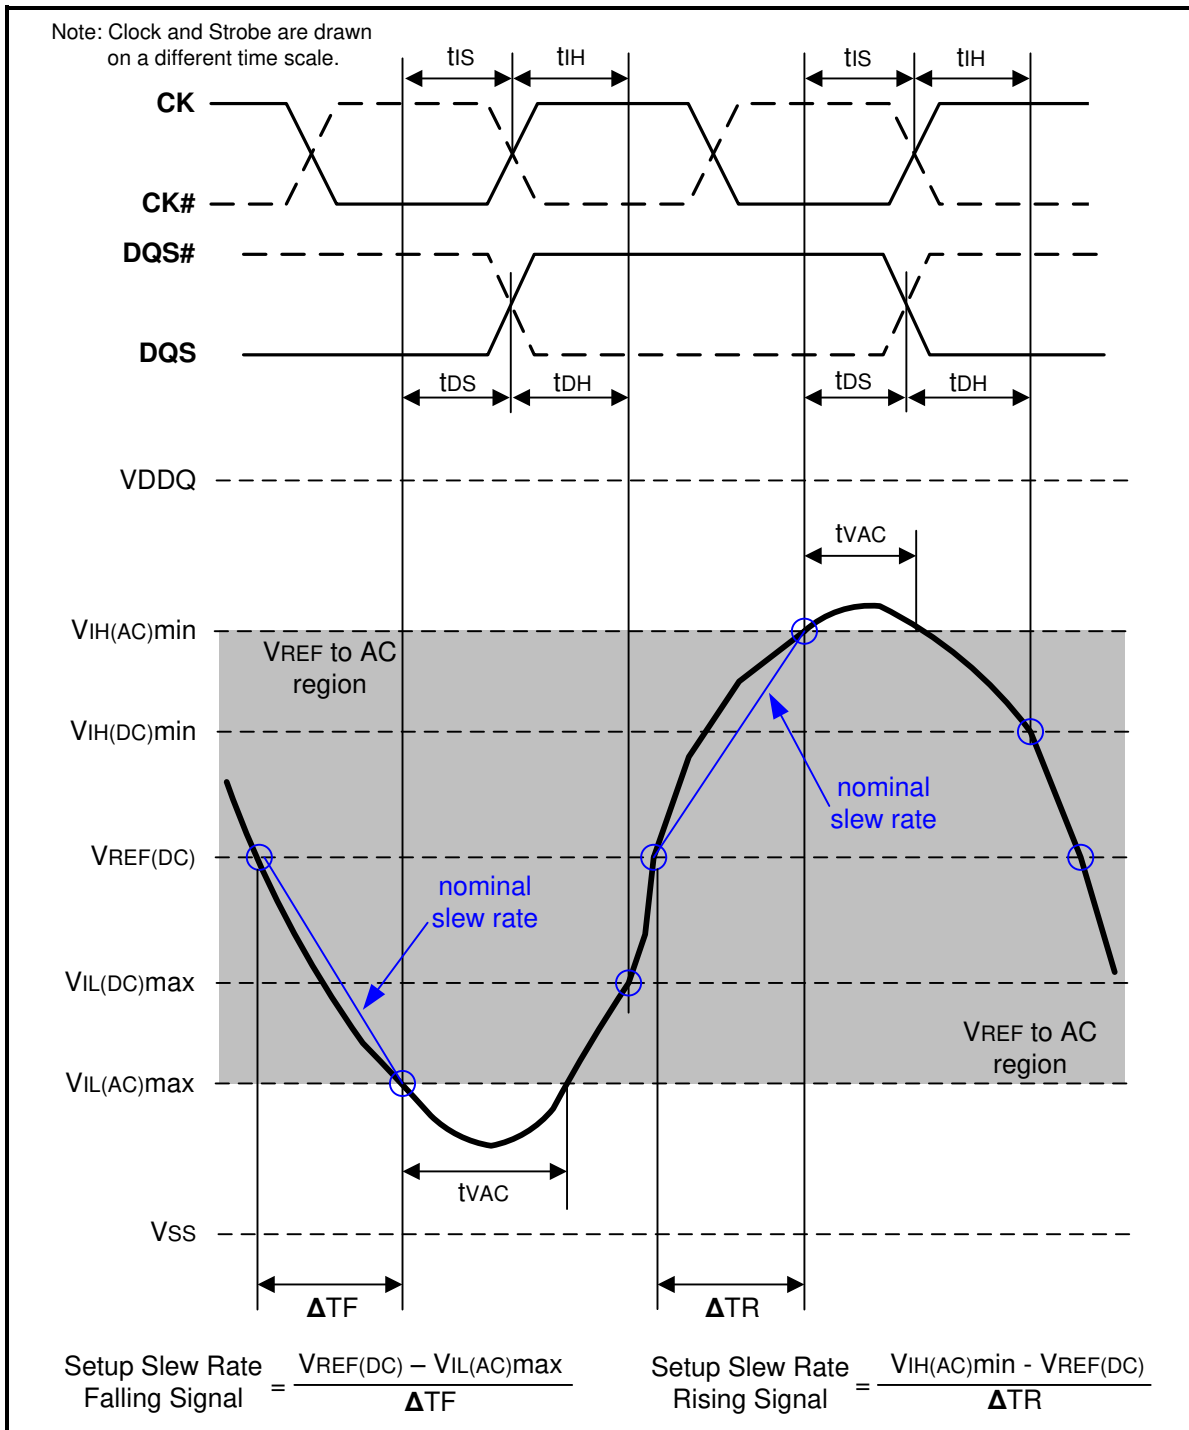

Figure 107 – Illustration of nominal slew rate and tvac for setup time t_{DS} (for DQ with respect to strobe) and t_{IS} (for ADD/CMD with respect to clock)
Setup (t_{IS}) nominal slew rate for a rising signal is defined as the slew rate between the last crossing of $V_{REF(DC)}$ and the first crossing of $V_{IH(AC)min}$. Setup (t_{IS}) nominal slew rate for a falling signal is defined as the slew rate between the last crossing of $V_{REF(DC)}$ and the first crossing of $V_{IL(AC)max}$. If the actual signal is always earlier than the nominal slew rate line between shaded 'VREF(DC) to AC region', use nominal slew rate for derating value (see Figure 107). If the actual signal is later than the nominal slew rate line anywhere between shaded 'VREF(DC) to AC region', the slew rate of a tangent line to the actual signal from the AC level to $V_{REF(DC)}$ level is used for derating value (see Figure 109).
Setup (tDS) nominal slew rate for a rising signal is defined as the slew rate between the last crossing of VREF(DC) and the first crossing of VIH(AC)min. Setup (tDS) nominal slew rate for a falling signal is defined as the slew rate between the last crossing of VREF(DC) and the first crossing of VIL(AC)max (see Figure 107). If the actual signal is always earlier than the nominal slew rate line between shaded 'VREF(DC) to AC region', use nominal slew rate for derating value. If the actual signal is later than the nominal slew rate line anywhere between shaded 'VREF(DC) to AC region', the slew rate of a tangent line to the actual signal from the AC level to VREF(DC) level is used for derating value (see Figure 109).